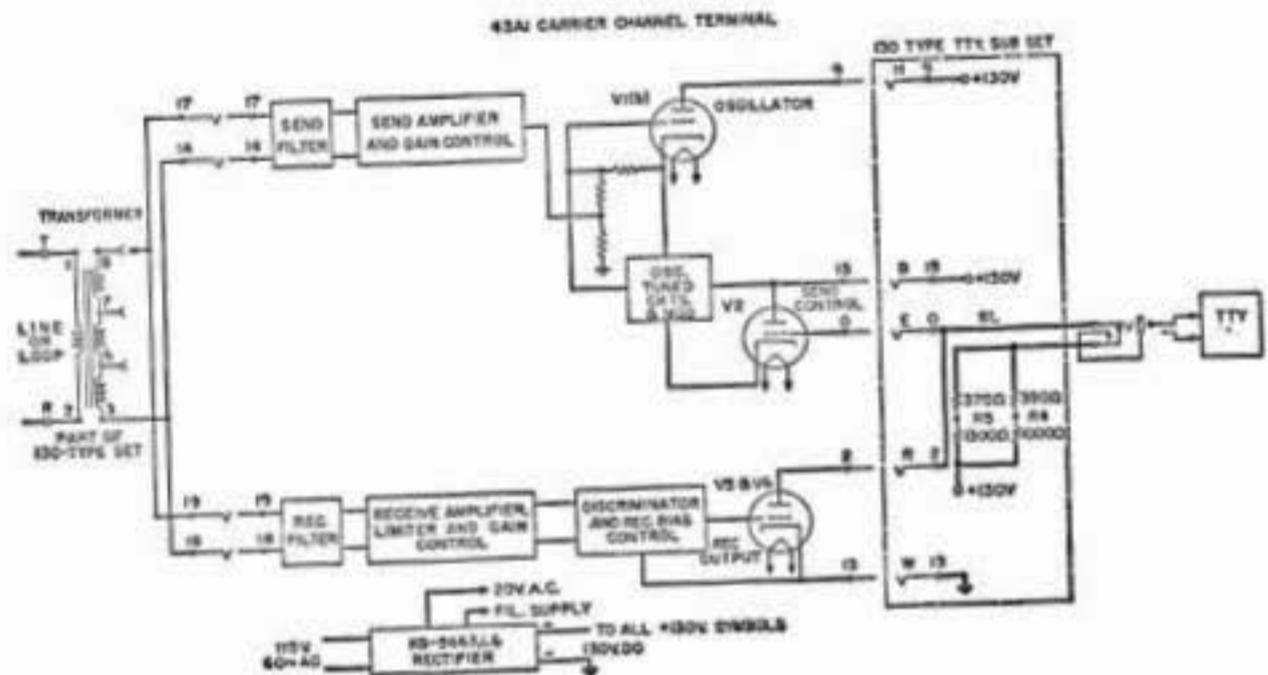
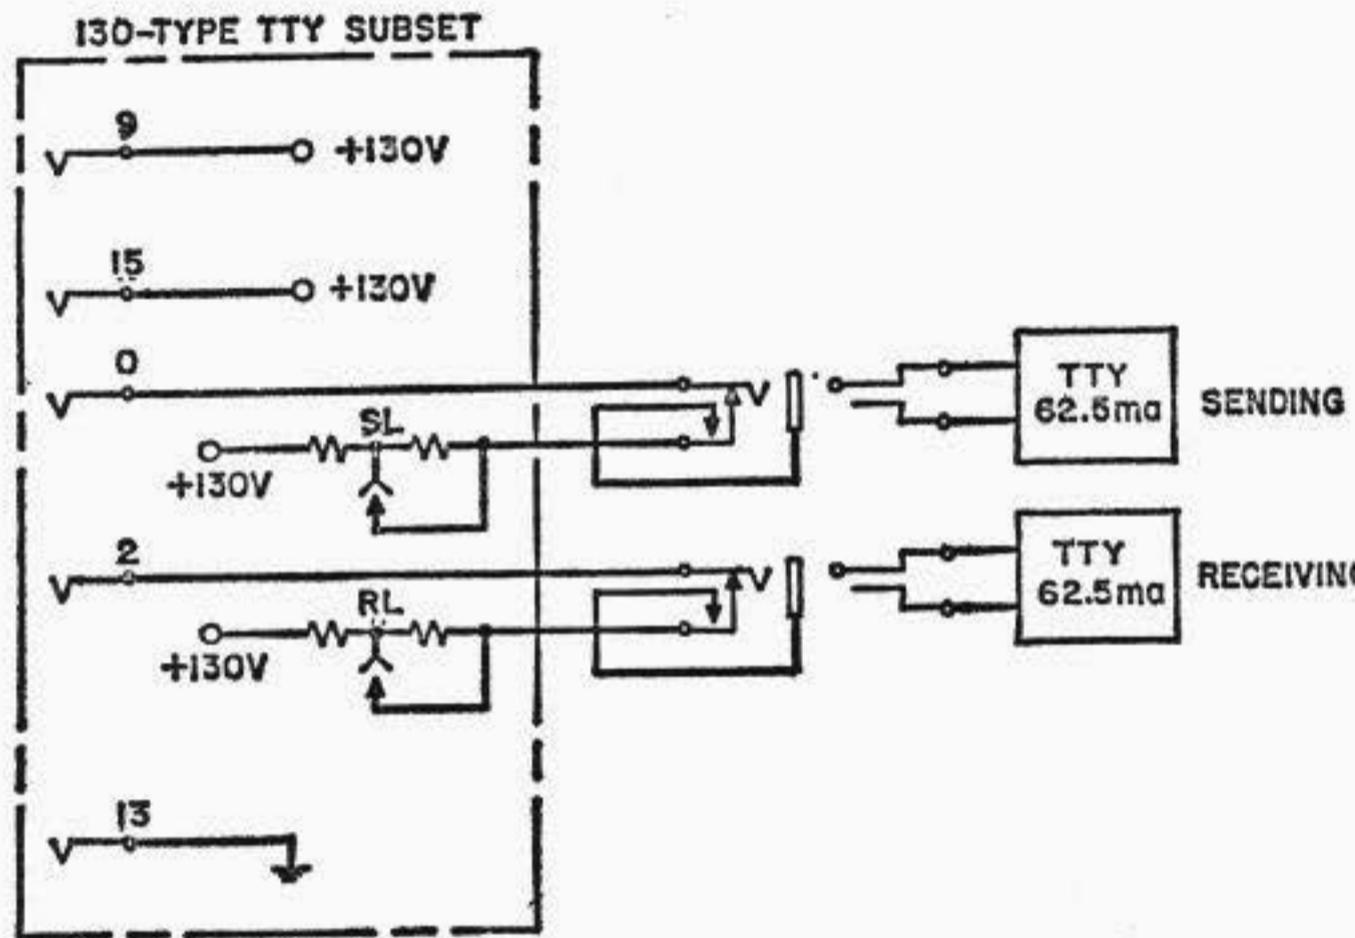

Fig. 6—TTY Station Set Using 43A1 Carrier Terminal—
Fig. 7—TTY Station Set (130B1) Used for PLS—Full Duplex
2.07 Fig. 6 is a simplified schematic of the 130B1 subscriber set used for PLS half-duplex operation. Fig. 7 shows only the corresponding dc circuits for full-duplex operation. The 130-type subscriber set can be arranged to operate either half or full duplex by means of external strapping at the screw-type terminal strip.